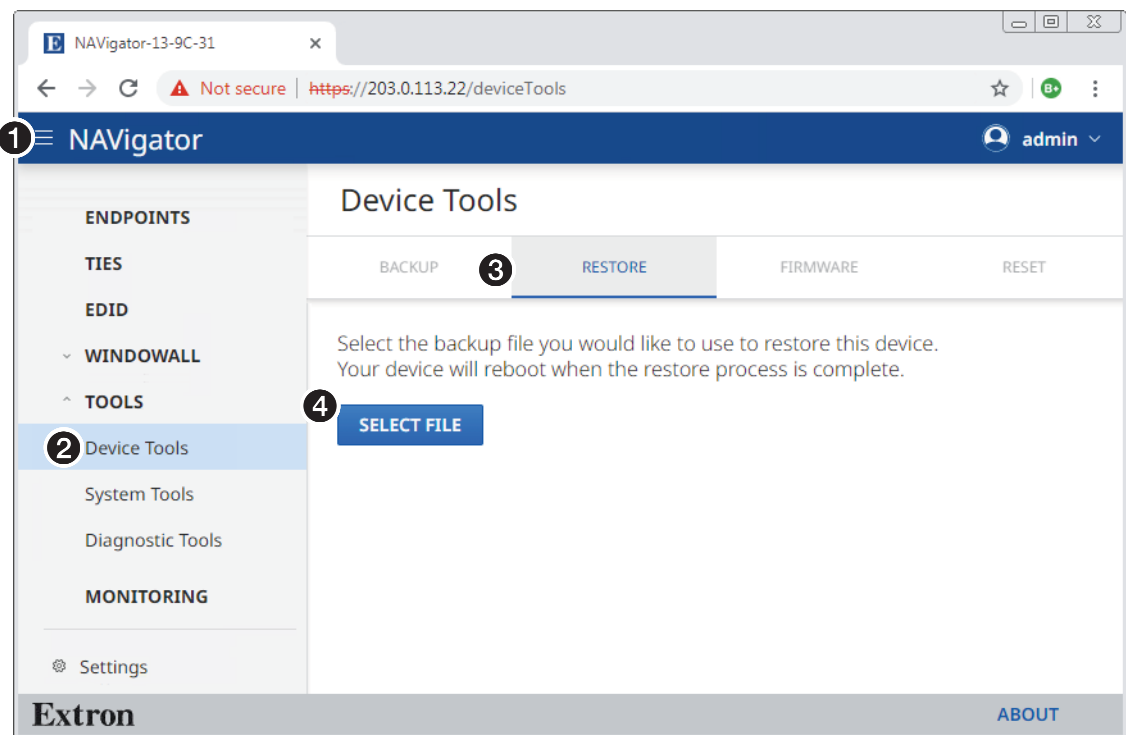

Figure 72. Opening the Restore Configuration Page
1. If necessary, click the **Menu** icon (see figure 72, **1**).